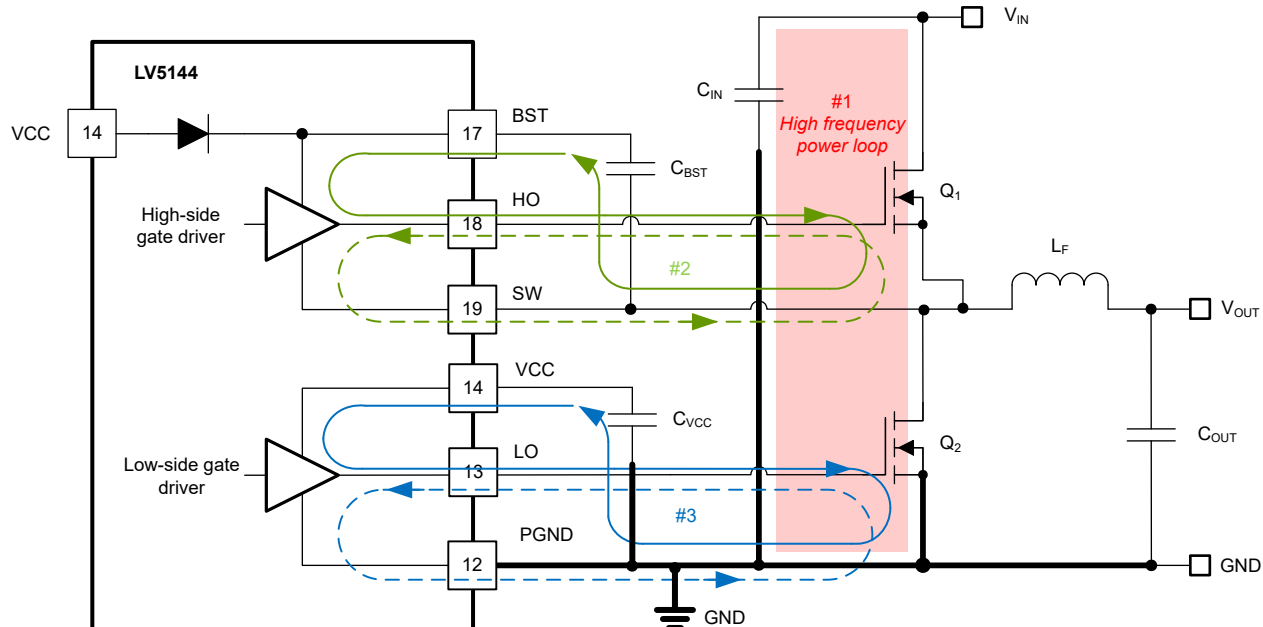

图 9-33. DC/DC Regulator Ground System With Power Stage and Gate Drive Circuit Switching Loops
Proper PCB design and layout is important in a high-current, fast-switching circuits (with high current and voltage slew rates) to assure appropriate device operation and design robustness. As expected, certain issues must be considered before designing a PCB layout using the LV5144. The high-frequency power loop of the buck converter power stage is denoted by #1 in the shaded area of Figure 9-33. The topological architecture of a buck converter means that particularly high  $di/dt$  current flows in the components of loop 1, and it becomes mandatory to reduce the parasitic inductance of this loop by minimizing its effective loop area. Also important is the gate drive loops of the low-side and high-side MOSFETs, denoted by 2 and 3, respectively, in Figure 9-33.
- Loop #1: The most important loop to minimize the area of is the path from the input capacitor or capacitors through the high- and low-side MOSFETs, and back to the capacitor or capacitors through the ground connection. Connect the input capacitor or capacitors negative terminal close to the source of the low-side MOSFET (at ground). Similarly, connect the input capacitor or capacitors positive terminal close to the drain of the high-side MOSFET (at VIN). Refer to loop #1 of Figure 9-33.
5. The SW pin connects to the switch node of the power conversion stage and acts as the return path for the high-side gate driver. The parasitic inductance inherent to loop #1 in Figure 9-33 and the output capacitance ( $C_{OSS}$ ) of both power MOSFETs form a resonant circuit that induces high frequency ( $> 100$  MHz) ringing on the SW node. The voltage peak of this ringing, if not controlled, can be significantly higher than the input voltage. Ensure that the peak ringing amplitude does not exceed the absolute maximum rating limit for the SW pin. In many cases, a series resistor and capacitor snubber network connected from the SW node to GND damps the ringing and decreases the peak amplitude. Provide provisions for snubber network components in the PCB layout. If testing reveals that the ringing amplitude at the SW pin is excessive, then include snubber components as needed.
- Loop 2: high-side MOSFET,  $Q_1$ . During the high-side MOSFET turnon, high current flows from the bootstrap (boot) capacitor through the gate driver and high-side MOSFET, and back to the negative terminal of the boot capacitor through the SW connection. Conversely, to turn off the high-side MOSFET, high current flows from the gate of the high-side MOSFET through the gate driver and SW, and back to the source of the high-side MOSFET through the SW trace. Refer to loop #2 of Figure 9-33.
- Loop 3: low-side MOSFET,  $Q_2$ . During the low-side MOSFET turn-on, high current flows from the VCC decoupling capacitor through the gate driver and low-side MOSFET, and back to the negative terminal of the capacitor through ground. Conversely, to turn off the low-side MOSFET, high current flows from the gate of the low-side MOSFET through the gate driver and GND, and back to the source of the low-side MOSFET through ground. Refer to loop #3 of Figure 9-33.